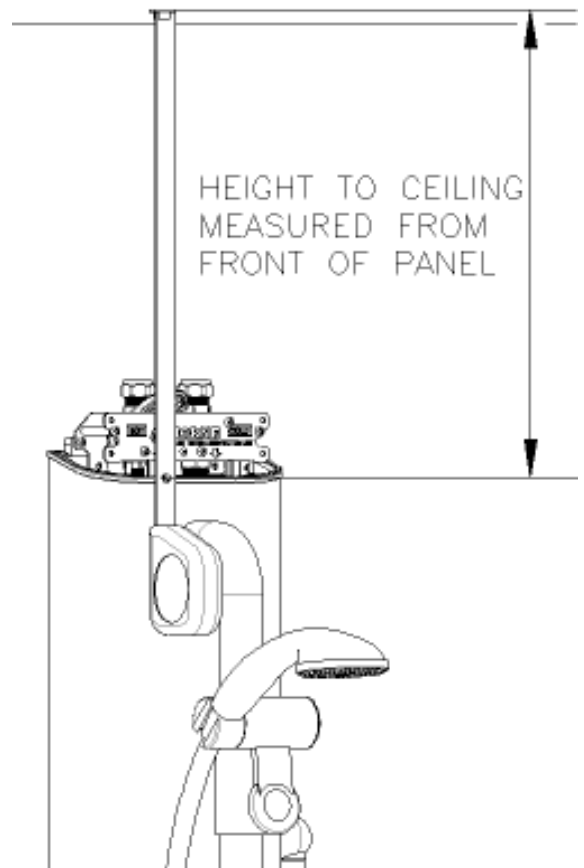

Fig. 3
Slide the Pipe Cover (Item 4) down into place, engaging with both the Alignment Pins (Items 6) and the Gasket (Item 5). If there are multiple cover sections, this should be repeated, ensuring the bottom section includes the key hole for ILTDU operation and leaving the section with the 90° end cut closest to the ceiling. If the Pipe Cover(s) is too long to do this, then measure the gap between the ceiling and the panel and cut the square TOP end of the Pipe Cover to make the Pipe Cover 15mm **SHORTER** than the gap using a saw suitable for use with aluminium. **NB. DO NOT CUT THE ANGLED END OF THE PIPE COVER** or it will not fit neatly onto the top of the Shower Panel. See Fig. 3 and 4.
- The ILTDU will not operate as intended unless it is configured exactly as shown in Fig. 3. It is expressly not permissible to swap over inlets and outlets, or hot and cold pipework, even if these are done symmetrically. Check the plumbing against the connections shown in Fig. 3.